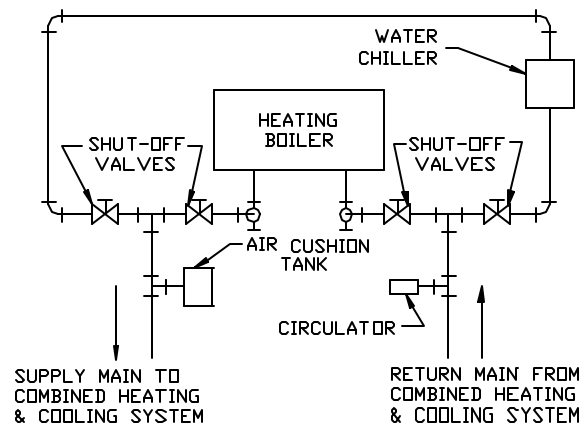

Figure 4: Recommended Piping for Combination Heating & Cooling (Refrigeration) Systems
- G. If boiler is used in connection with refrigeration systems,** boiler must be installed with chilled medium piped in parallel with the heating boiler using appropriate valves to prevent chilled medium from entering boiler, see Figure 4. Also consult I=B=R Installation and Piping Guides.